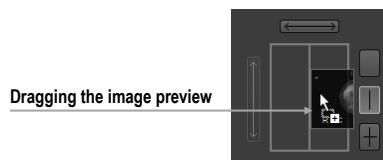

Figure 468 – Dragging an image from the study preview to the layout area
- Use the drag-and-drop technique to drag the image to the screen layout area in the image navigator (see Figure 468). The image is displayed in the appropriate view in the workspace on the left or right monitor.